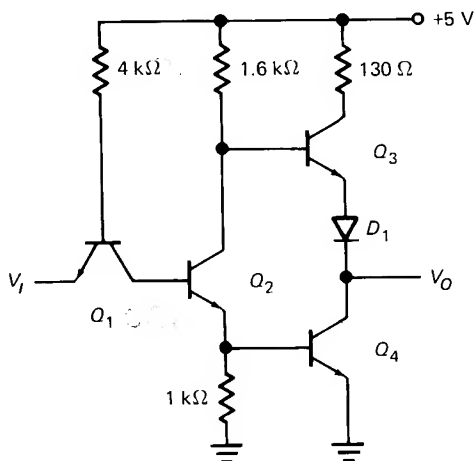

Fig. 4-21
- 4-1. In Fig. 4-21 a grounded input means that almost the entire supply voltage appears across the 4-k Ω resistor. Allowing 0.7 V for the emitter-base voltage of Q_1 , how much input emitter current is there with a grounded input? The supply voltage can be as high as 5.25 V and the 4-k Ω resistance can be as low as 3.28 k Ω . What is the input emitter current in this case?